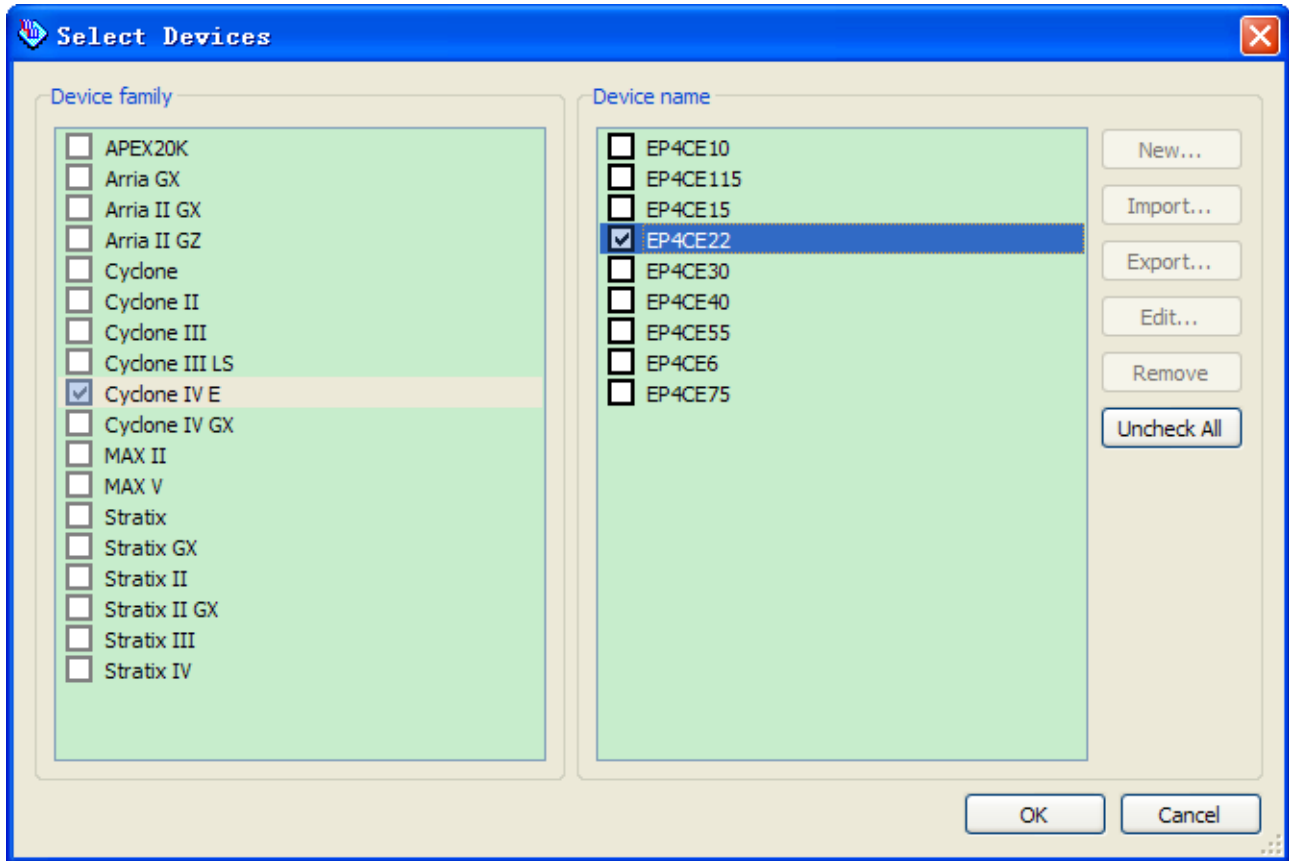

Figure A3 Select Devices Page
11. Select the targeted FPGA that you are using to program the serial configuration device. See Figure A3.